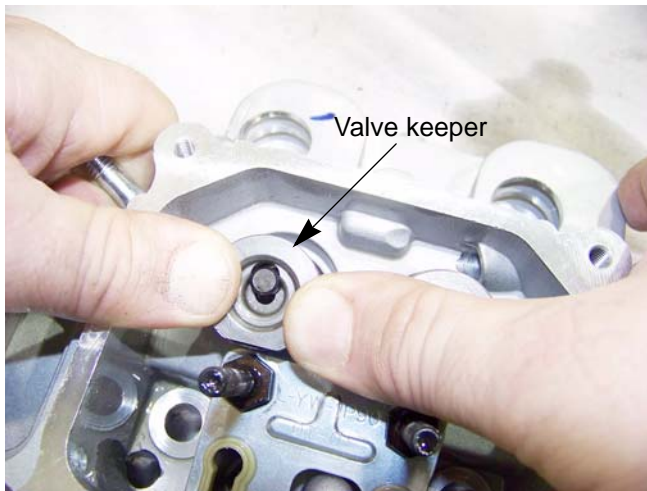

Figure 9.10
4. Remove the valve retainers by applying light finger pressure and moving the retainer so that the valve stem passes through the large part of the "keyhole" opening in the retainer. See Figure 9.10.